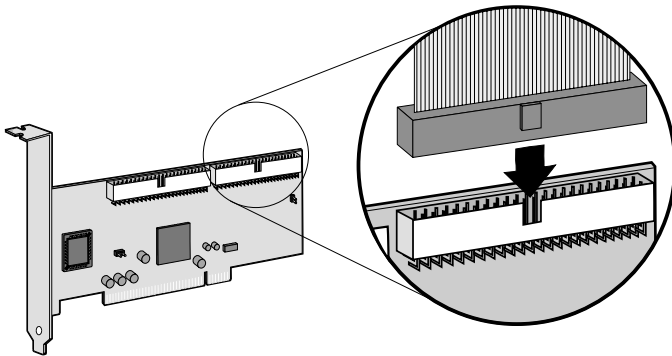

Figure 2-6 Connecting the Cable to the Channel Connector
- 1 Connect the *blue* connector of an ATA/100 cable to the channel 1 connector on the controller card as shown in Figure 2-6, being careful to match pin 1 of the cable to pin 1 of the connector. The cables and connectors are keyed. If the cable does not slide easily into the connector, *do not* force it. Instead, reverse the cable.